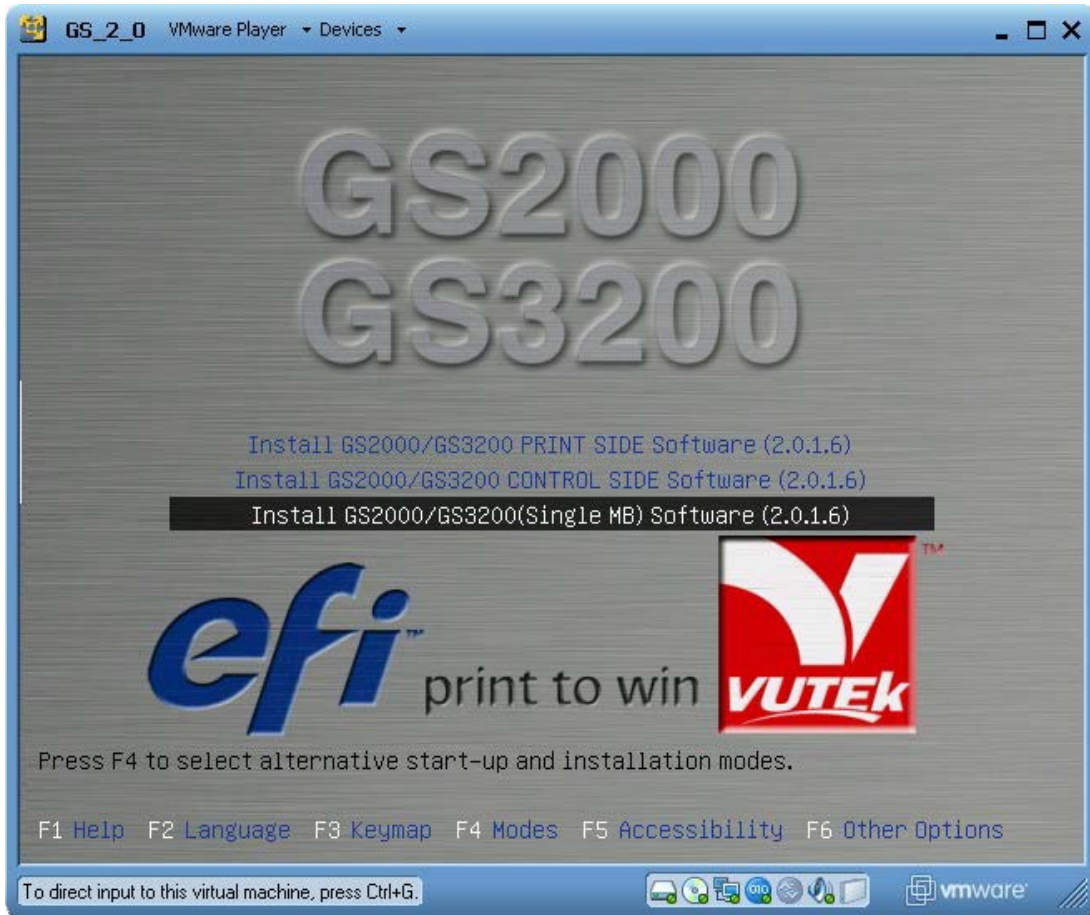

Figure 13: Installer boot screen main menu
- From **Installer Selection** screen, navigate to '**Install GS2000/GS3200 (Single MB) Software** ' shown in **Figure 13** and press **ENTER**.